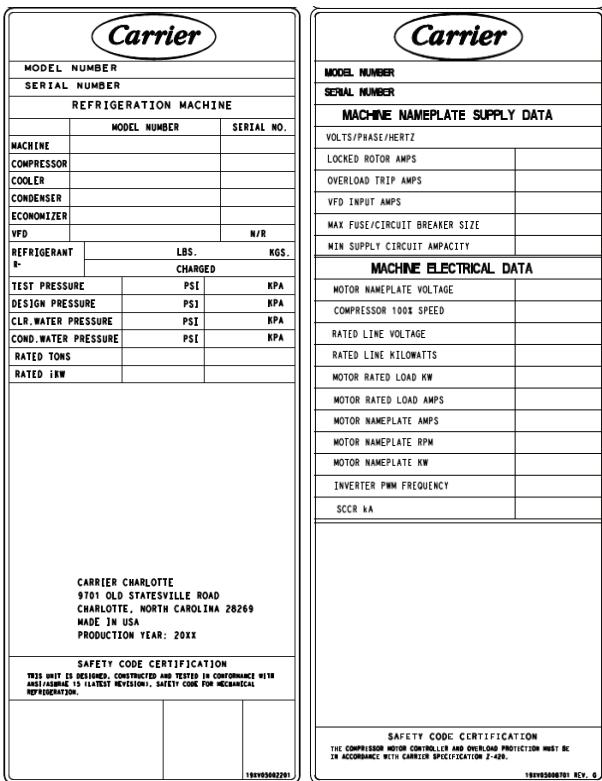

Fig. 31 — Machine Identification Nameplate and VFD Electrical Nameplate
- Chiller identification nameplate — Located on the left side of the control panel. See Fig. 31.
- VFD Nameplate data - located on the right side of the VFD. See Fig. 31.